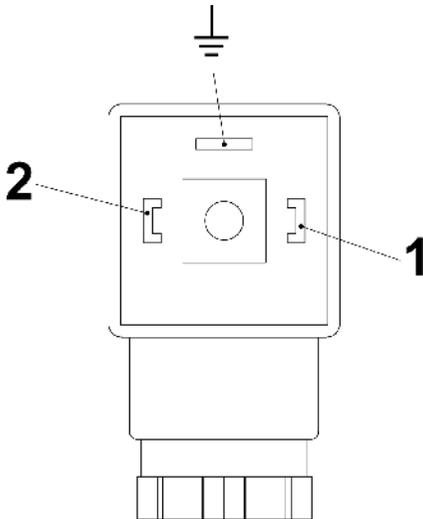
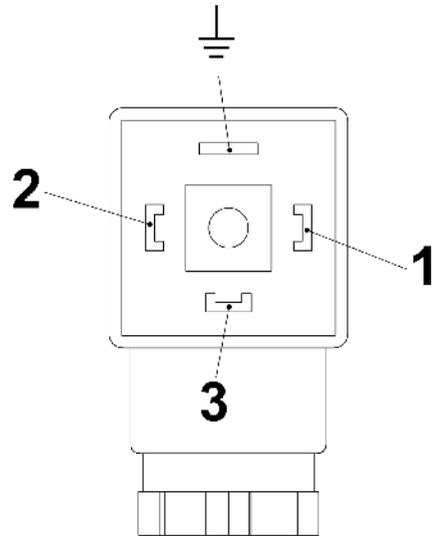

Fig. 23: Pin assignment, plug socket, Normally Open Contact (Form 30x70)
Fig. 24: Pin assignment, plug socket, Change-over contact (Form 30x70)
6. ➤ Make the connections as shown in the connection diagram (Fig. 23 und Fig. 24)